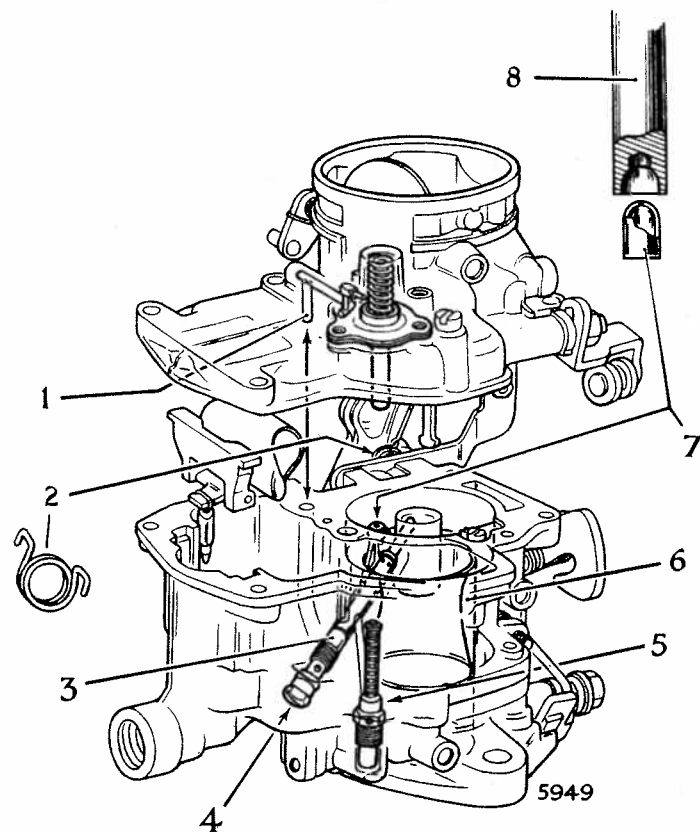

Fig. 4. Ghost view of carburettor passageways and jet positions.
#### Carburettors (See Fig. 4)
When fitting the replacement high speed bleed (2) a suitably recessed punch (8) must be used as shown in the illustration, Fig. 4.